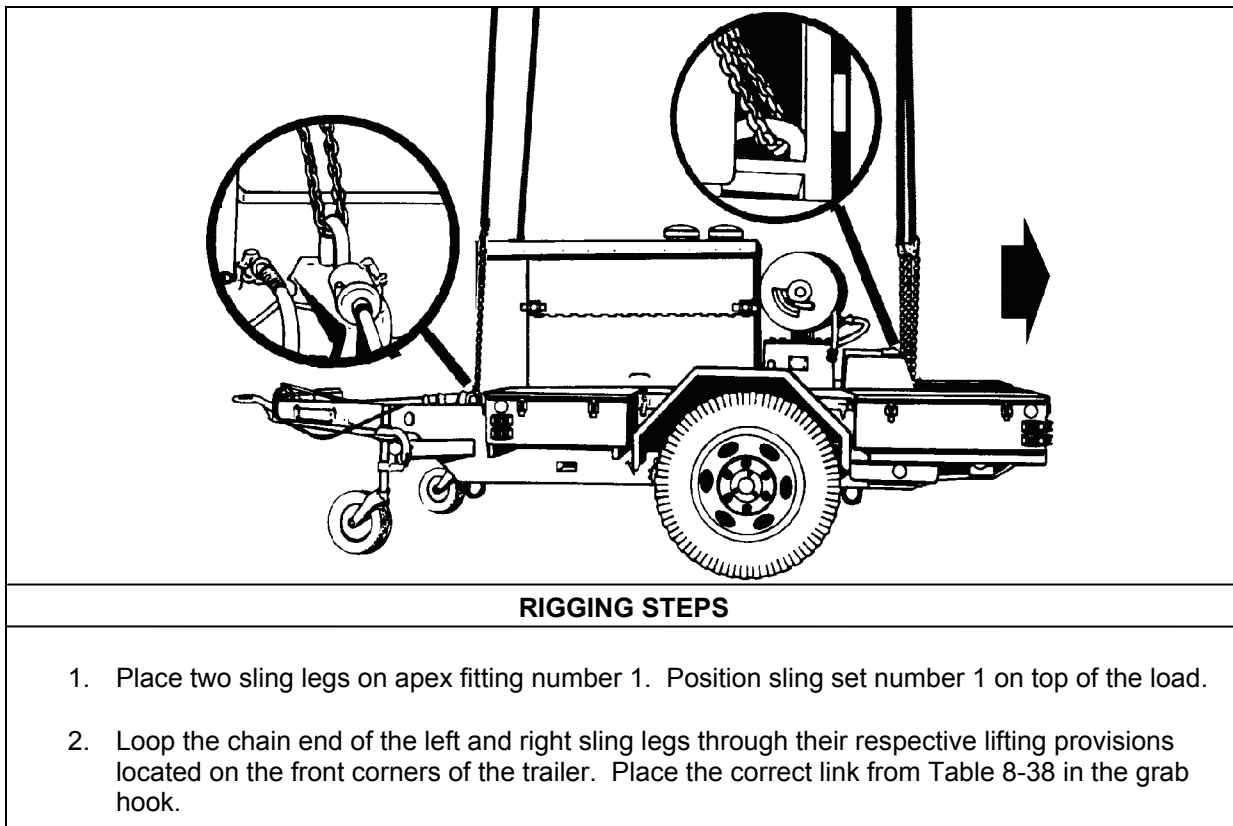

Figure 8-38. Tool Outfits on M353 Trailer
- **Rigging.** Rig the load according to the steps in Figure 8-38.